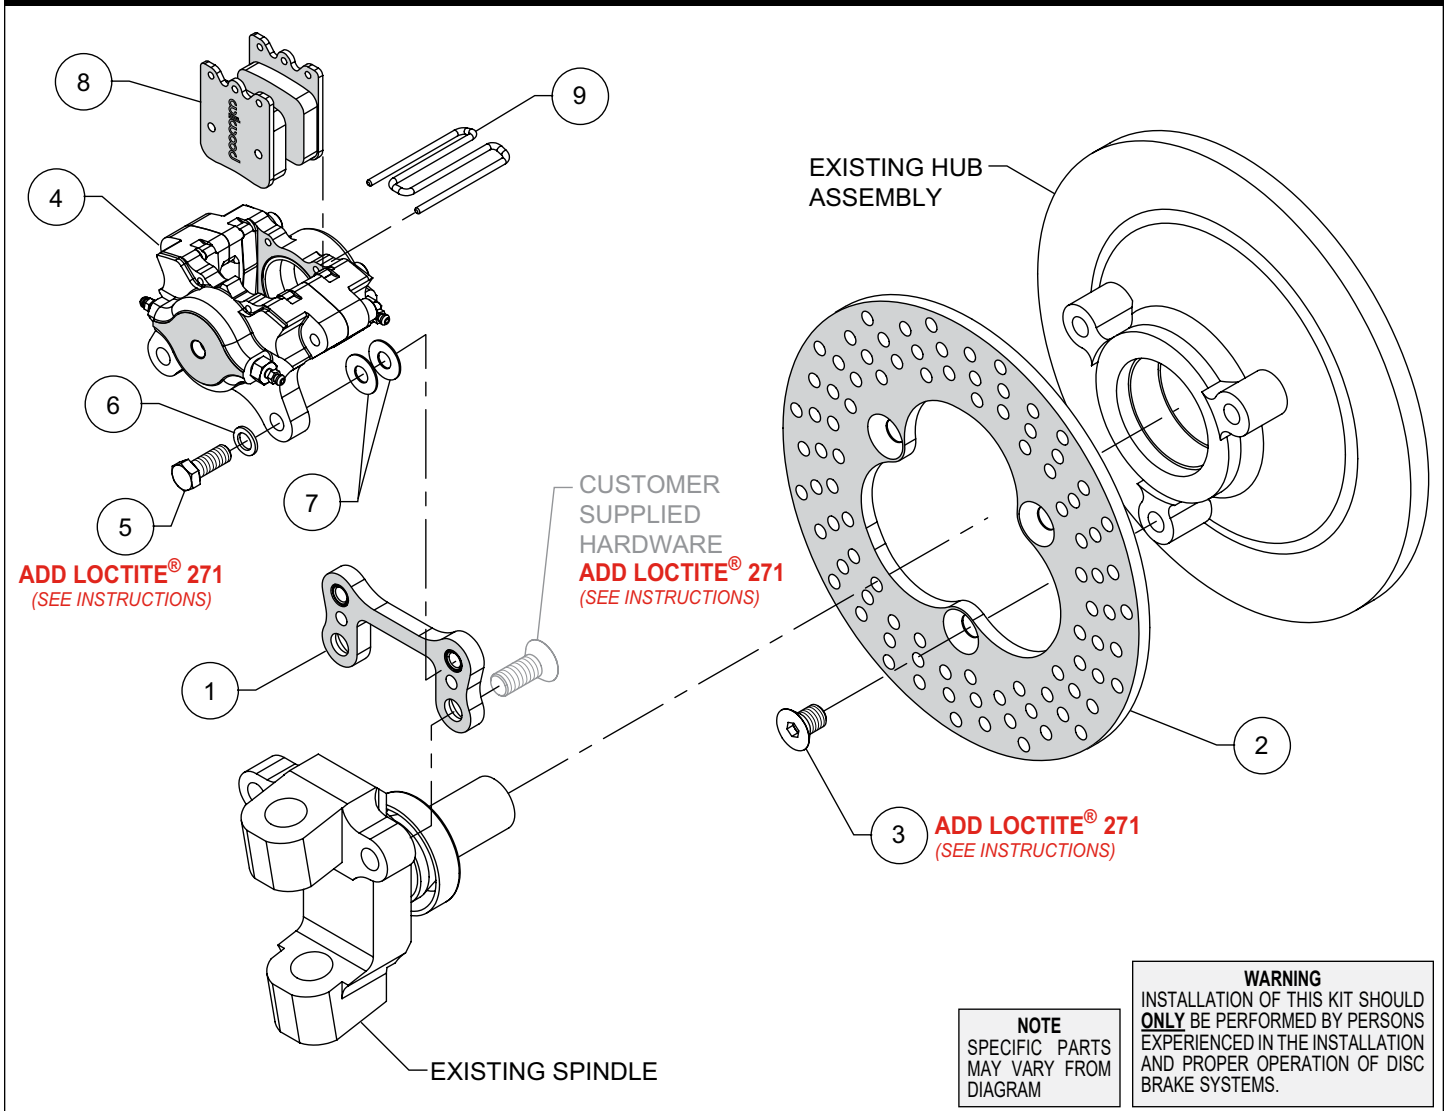

Figure 1. Typical Installation Configuration
**NOTE:** Numbers in parenthesis refer to the parts list and Figure 1 on the preceding pages.
- Orient the caliper mount bracket (1) as shown in Figure 1, and install using customer supplied hardware. Ensure that the flanged heads of the clinch nuts in the bracket are facing outboard. Temporarily tighten the mounting bolts. **NOTE:** The bracket must fit squarely against the mount bosses on the spindle. Inspect for interference from machining ridges, burrs, etc. Remove bolts one at a time, apply red Loctite® 271 to the threads and torque to specification.
- Mount the rotor (2) to the existing hub assembly using bolts (3) as shown in Figure 1. Apply red Loctite® 271 to the bolt threads and torque bolts to 80 ft-lb.
- NOTE:** Please reference the caution statement at the beginning of the assembly instructions. Orient the caliper (4), as shown in Figure 1, and install using bolts (5) and washers (6), Figure 1. Initially place two .035" thick shims (7) on each bolt between the caliper and bracket as shown in Figure 1. Temporarily tighten the bolts and view the rotor through the top opening of the caliper. The rotor should be centered in the caliper. If not, adjust by adding or subtracting shims (7) between the bracket and the caliper. Always use the same amount of shims on each of the two mounting bolts. **NOTE:** The end of each bolt must be flush with or slightly protruding from the head of the clinch nut.